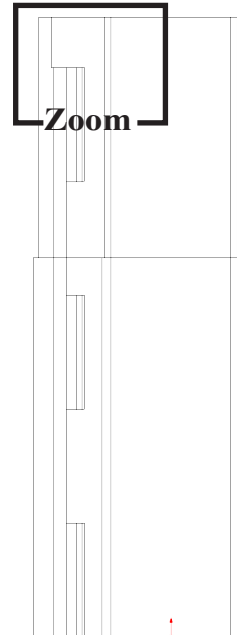

Fig. 48
Step 4. Zoom in top of Hook housing, **Fig. 48**. To zoom, place the cursor over the top of the Hook housing area and spin the wheel on mouse back. While spinning the wheel keep cursor on the area where you want to zoom.